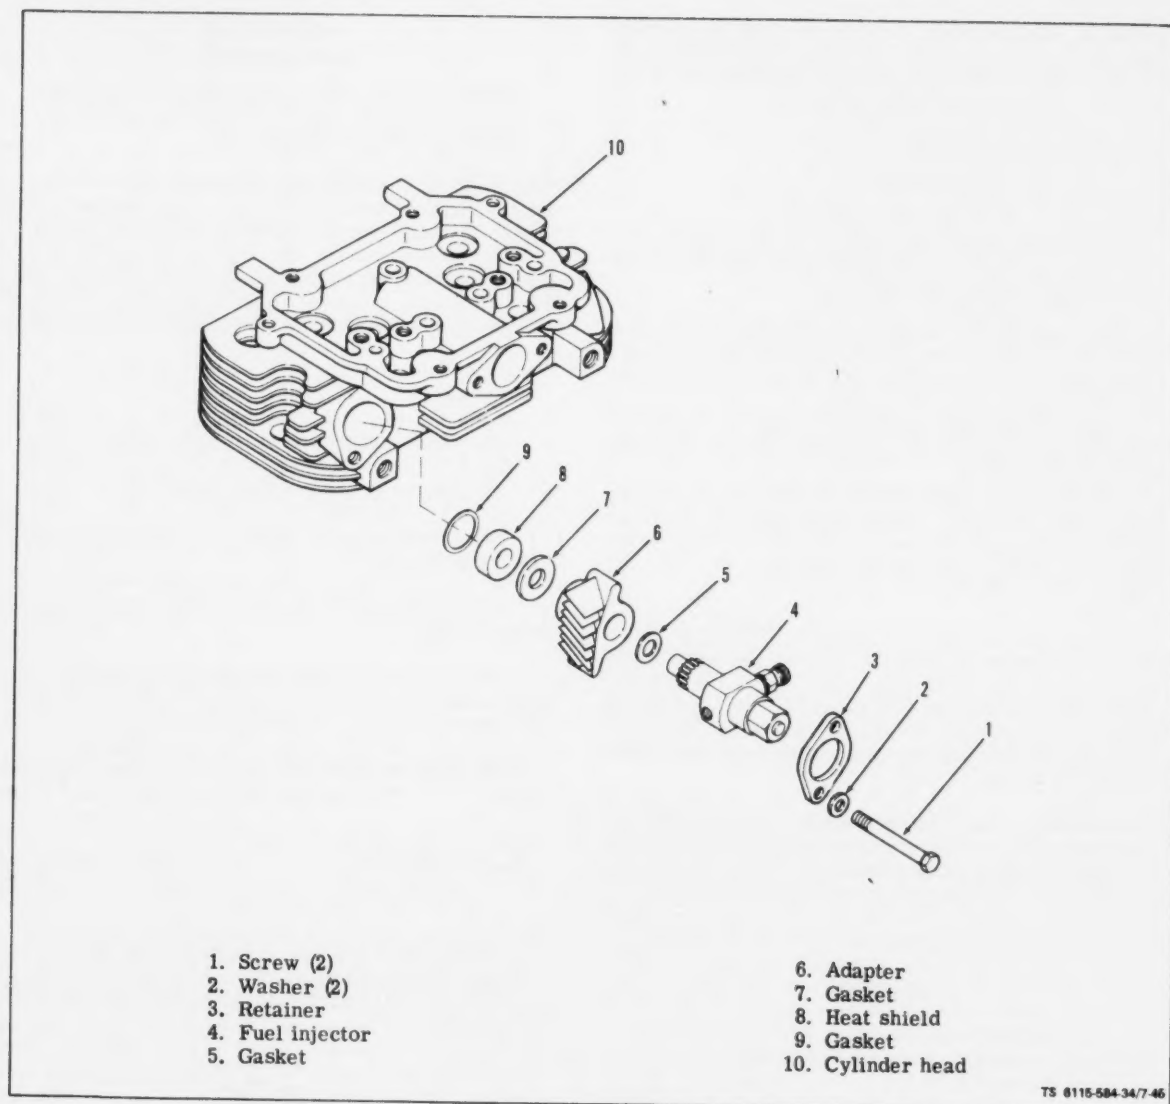

Figure 7-45. Injector Nozzle Removal
(2) Remove screws (1, figure 7-45), washers (2) and retaining flanges (3).
(3) Remove fuel injector (4), gasket (5), adapter (6), gasket (7), heat shield (8) and gasket (9). Separate injector from other components.
- (1) Make sure old gasket material has been removed from injector.
- (2) Assemble new nozzle gasket (5, figure 7-45), adapter (6), gasket (7), heat shield (8) and gasket (9) on injector (4).
- (3) Install injector and assembled parts into cylinder head (10).
- (4) Install retaining flange (3) and tighten down with screws (1) and washers (2).
- (5) Reconnect fuel lines as described in paragraph 7-2.